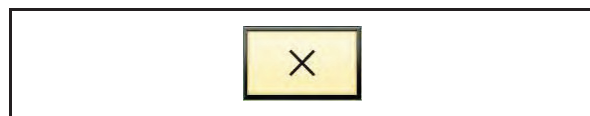

Fig. 180
- The elevator conveyor stops and the symbol "Elevator conveyor Stop" (Fig. 180) appears in the terminal.